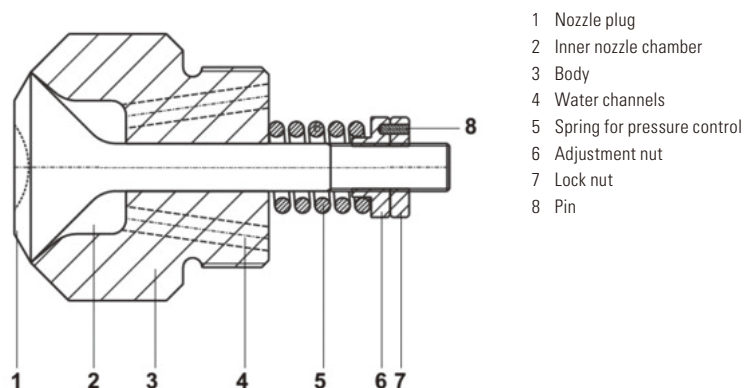

Fig 1 – nozzle head cross section
- The D410S injection nozzle is screwed onto the body and secured by a lock washer – see fig1.
- The Variable-nozzle is a variable orifice, mechanically atomizing nozzle – see fig1.
- The Variable-nozzle body (3) is screwed into the nozzle holder which houses the nozzle and distributes the water to the nozzle.
- The cooling water enters the inner nozzle chamber (2) in the Variable-nozzle through the admission holes (4). In the inner nozzle chamber the water is rotated around the control plug (1) thanks to the special arrangement of the admission holes. The angle of the nozzle seat is slightly different from the control plug so that the water velocity will increase during its travel through the nozzle and reach its maximum as the water leaves the nozzle.
- In order to maintain a minimum pressure inside the inner nozzle chamber the control plug of the nozzle is preloaded by a spring (5). The force required to open the nozzle is set by adjusting the nut (6). The setting of the opening force is determined by the differential pressure between the cooling water and the steam and, when applicable, the temperature of the cooling water, to avoid flashing inside the nozzle.